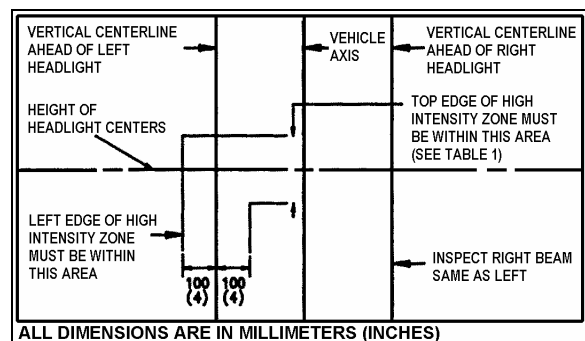

FIGURE 38: AIM INSPECTION LIMITS FOR LOWER-BEAM HEADLIGHTS 06506
8. The inspection limits in the vertical direction for low-beam headlights or the low beam of a dual-beam headlight, shall be as described in Table 1. In the horizontal direction, the left edge of the high-intensity zone shall be located from 10 cm (4 inch) left to 10 cm (4 inch) right of the vertical centerline of the beam. The viewing screen shall be located 7.6 m (25 ft.) in front of the vehicle (Fig. 38).